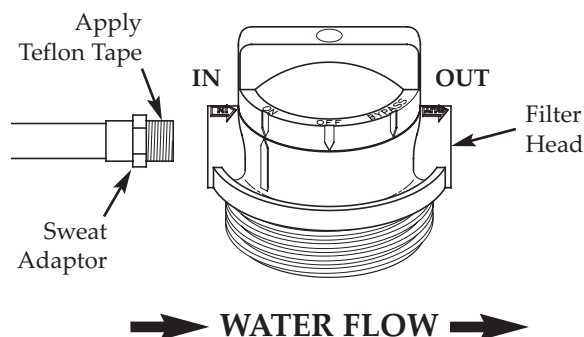

Figure 12
6. After it cools, apply 4 wraps of Teflon tape to the threads on the sweat adaptor fitting (See Figure 12).
7. With the **IN** side of the water filter **toward incoming water**, carefully, turn the filter head onto the sweat adaptor fitting (See Figure 12). Do not cross-thread, or over-tighten and crack the filter head.